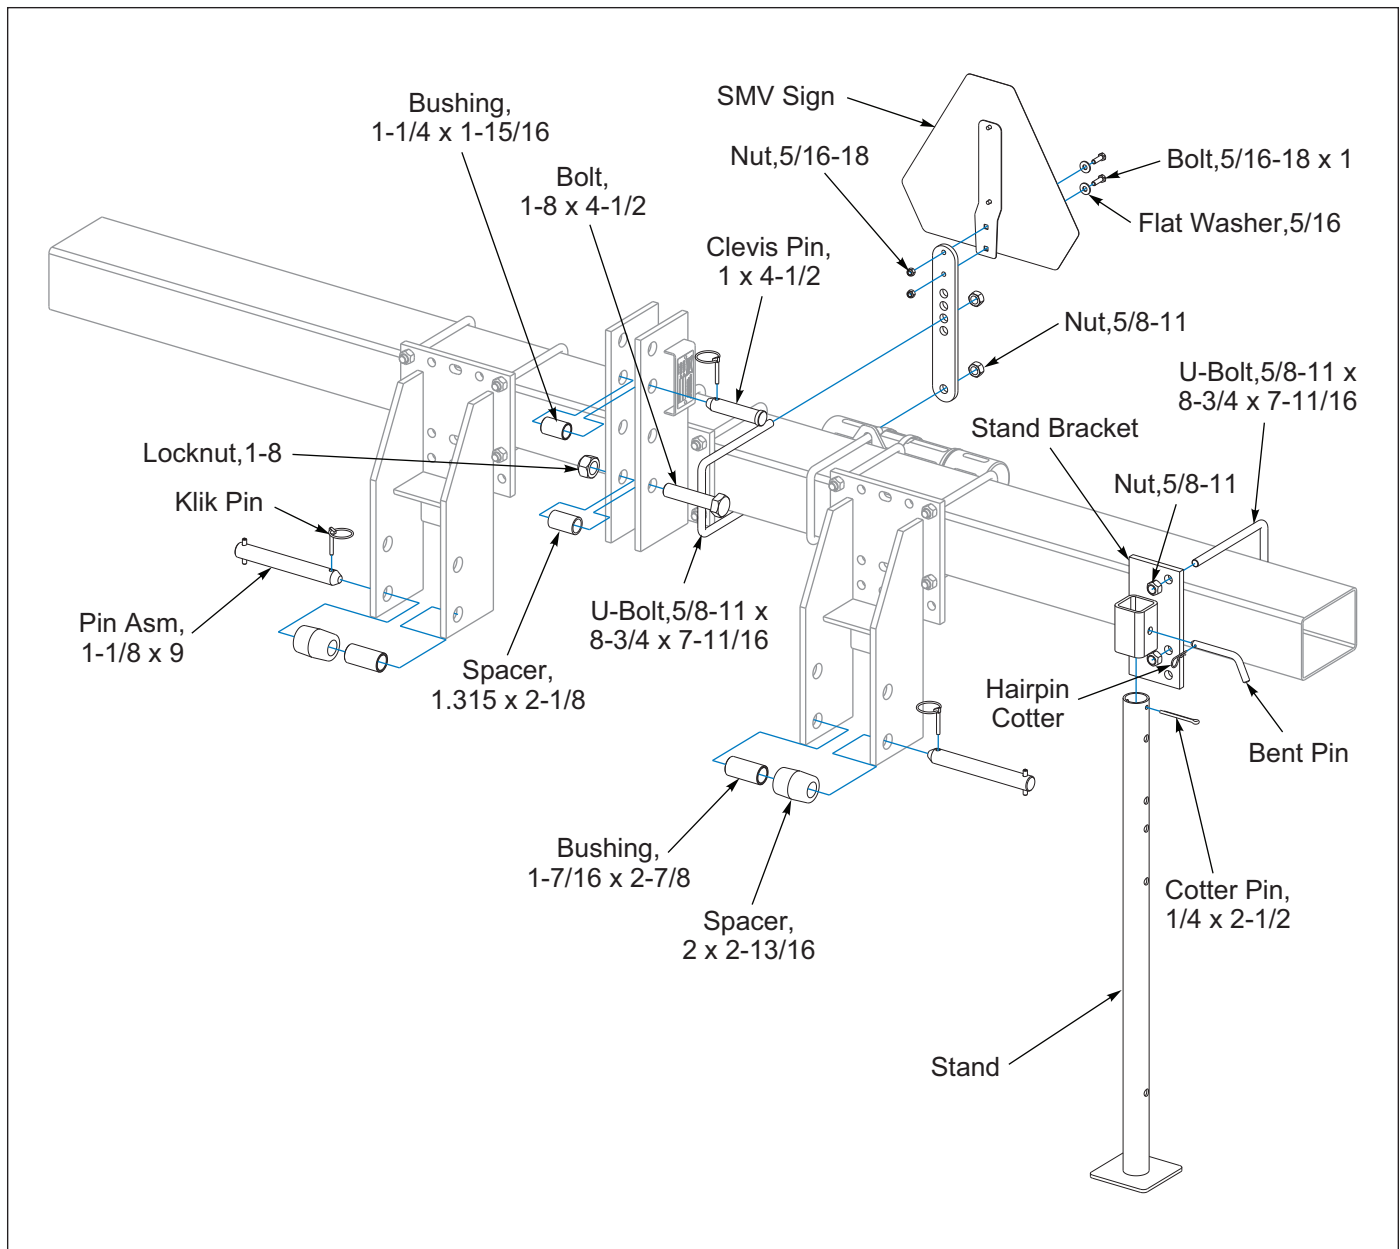

Figure 2-1: PPF6-8 Frame
2. Assemble Stand Bracket(s) on the front of the Frame Tube with 5/8-11 U-Bolt and Locknuts. Install Stand(s) into the Stand Bracket(s) with Bent Pin and Hairpin Cotter. To prevent Stand from falling through the Stand Bracket, install Cotter Pin in the top hole of the Stand. **See Figures 2-1 and 2-2.**